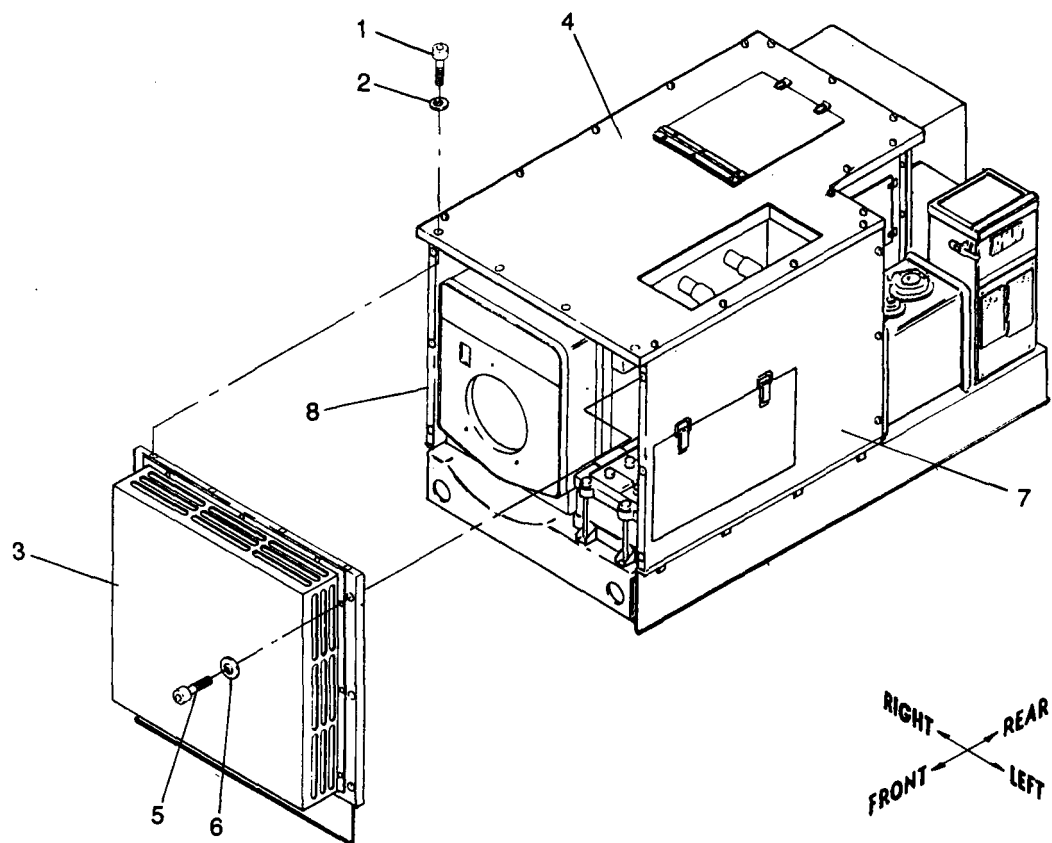

Figure 5-9. Front Panel Assembly, Removal and Installation
a. Removal. See figure 5-9. Remove front panel assembly from right, left, and top panel assemblies as follows:
(1) Remove four screws (1) and washers (2) securing the front panel assembly (3) to top panel assembly (4).
(2) Remove six screws (5) and washers (6) securing front panel (3) to left panel assembly (7) and right panel assembly (8).
(3) Remove front panel assembly (3).
b. Installation. See figure 5-9. Install front panel assembly to right, left and top panel assemblies as follows:
(1) Position front panel assembly (3) to right and left panel assemblies (8 and 7) and secure with six screws (5) and washers (6).